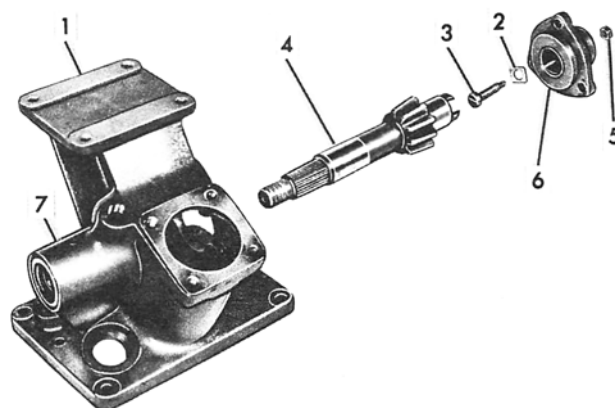

Figure 7
1. Remove the sector shaft cover and adjuster screw assembly and pull out the sector shaft, refer to Figure 7.
2. Install the sector shaft. Refer to Figure 7.